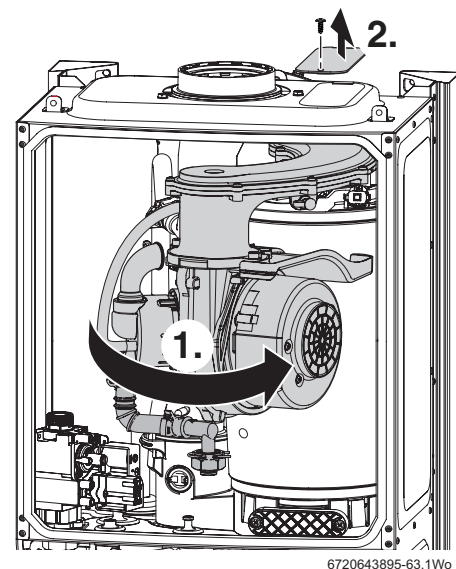
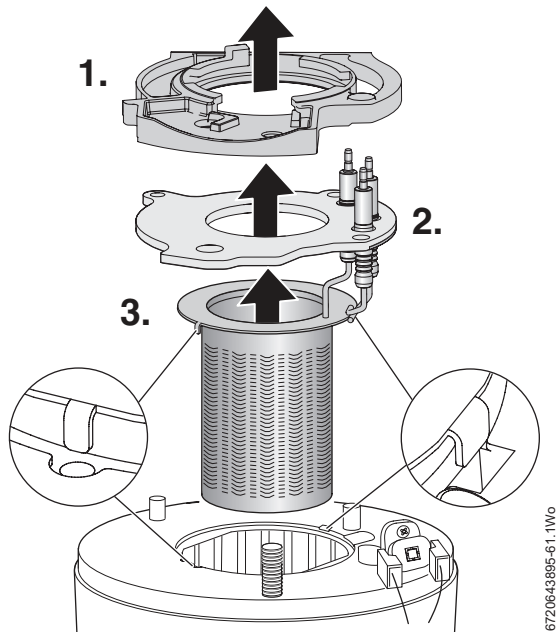

Fig. 66 Rotate air/gas manifold
Fig. 67 Burner removal
1. Refer to figure 66 and rotate fan and air/gas manifold assembly around the top of the heat exchanger until it stops at the lug.
Refer to figure 67
- ▶ Access the heat exchanger flue ways by inserting the cleaning brush (7 716 192 312) through the top access hole in the casing, removal of panel shown in figure 66.
- ▶ Re-assemble ensuring that the lower baffle (2) and the top baffle (1) are refitted correctly.
- ▶ Refer to figure 67 when re-fitting the burner to ensure that it fits centrally within the heat exchanger and location tabs are situated in location holes.